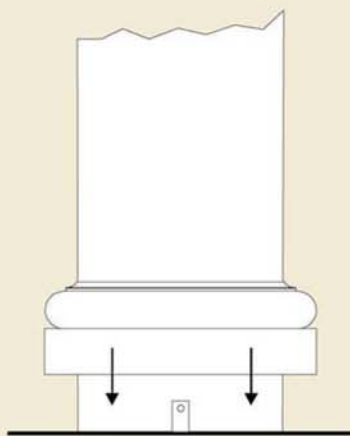

Figure 1
3. Slip one-piece cap and base onto column shaft (see figure 1). The two-piece cap and base are attached after then shaft is installed. If this column is installed where it could collect water or debris, the top of the column and cap MUST be flashed (covered) to prevent such collection. Use lead, copper, aluminum, galvanized, etc. flashing cut slightly larger than the cap, and fold the edges down over the cap after step 5. It is not permissible at any time to fill the interior of the column shaft with sand, concrete or any other material.